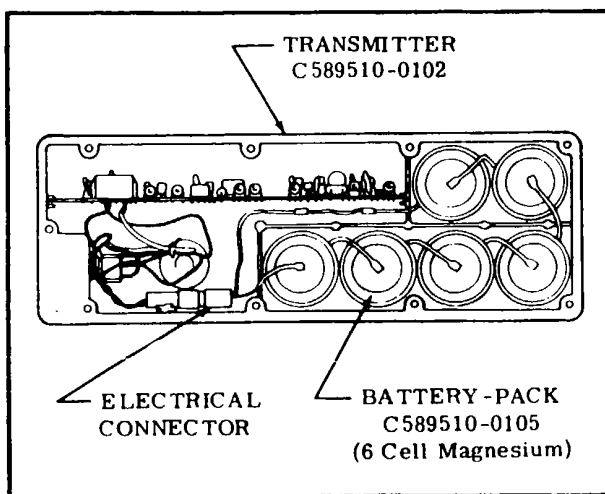
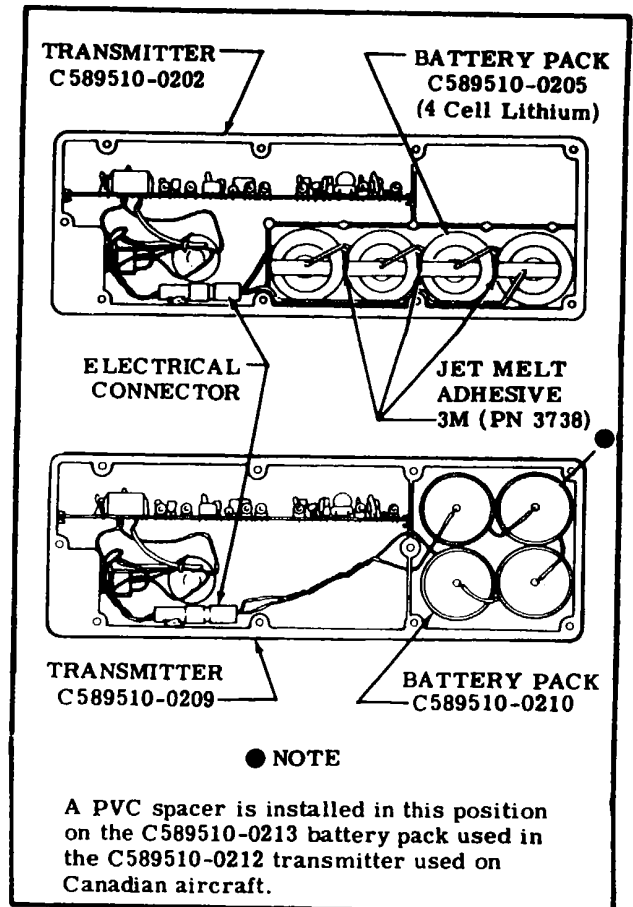

Figure 15-19. Magnesium 6 Cell Battery-Pack Installation
Figure 15-20. Lithium 4 Cell Battery Pack Installations
15-111. DESCRIPTION. The ELT is a self-contained, solid state unit, having its own power supply, with an externally mounted antenna. The C589510-0209 transmitter is designed to transmit simultaneously on dual emergency frequencies of 121.5 and 243.0 Megahertz. The 589510-0211 transmitter thru P3370257 and the C589510-0212 beginning with P3370258 used for Canadian registry, operates on 121.5 only. The unit is mounted in the cabin top, aft of the main spar at various positions, due to installations of other equipment. The transmitters are designed to provide a broadcast tone that is audio modulated in a swept manner over the range of 1600 to 300 Hz in a distinct, easily recognizable distress signal for reception by search and rescue personnel and others monitoring the emergency frequencies. Power is supplied to the transmitter by a battery-pack which has the service life of the batteries placarded on the batteries and also on the outside end of the transmitter. ELT's thru early 1974 models, were equipped with a battery-pack containing six magnesium "D" size dry cell batteries wired in a series. (See figure 15-19) Mid 1974 thru early 1975, ELT's are equipped with a battery pack containing four "in-line" lithium "D" batteries wired in series. Early 1975 and on ELT's are equipped with a battery-pack containing four lithium "D" size batteries which are stacked in two's (Refer to figure 15-20). The ELT exhibits line of sight transmission characteristics which correspond approximately to 100 miles at a search altitude of 10,000 feet. When battery inspection and replacement schedules are adhered to, the transmitter will broadcast an emergency signal at rated power (75 MW-minimum), for a continuous period of time as listed in the following table.
15-116. REMOVAL AND INSTALLATION OF MAGNESIUM SIX (6) CELL BATTERY-PACK. (Refer to figure 15-19.)
15-117. REMOVAL AND INSTALLATION OF LITHIUM FOUR (4) CELL BATTERY-PACK. (Refer to figure 15-20.)
- d. Place new battery-pack in the transmitter with four batteries as shown in the case in figure 15-20.
- e. Connect the electrical connector as shown in figure 15-20.